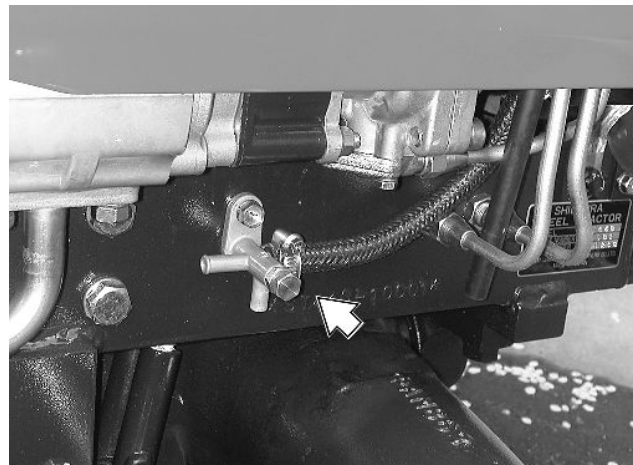
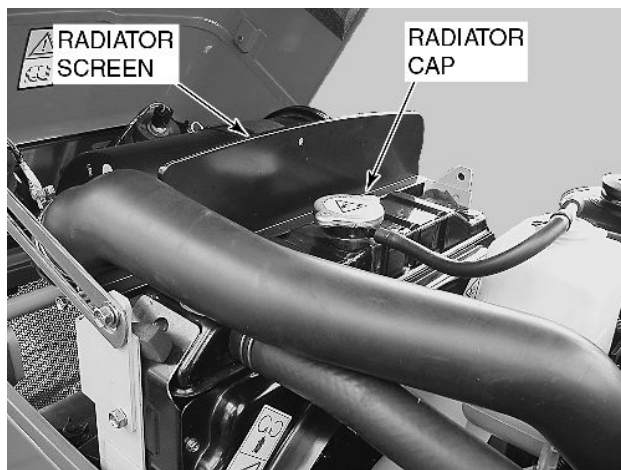

Figure 60 - Radiator Drain Valve
Figure 62 - Radiator Screen and Radiator cap
Keep the radiator fins clear of chaff or dirt to allow free passage of air, Figure 62.
1. Remove the radiator cap, Figure 62 on next page and open the drain valve on both the radiator and the engine block. The radiator drain valve is located on the bottom right side of the radiator. The engine block drain valve is located on the right side of the engine. See Figure 60.
5. Clean the radiator front screen, Figure 62.